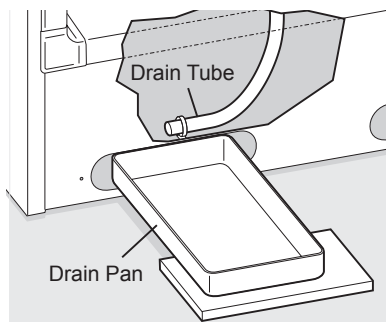
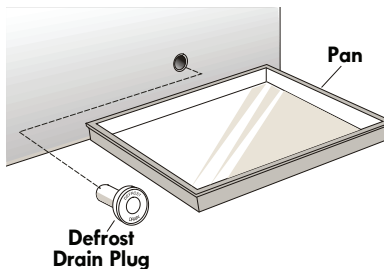
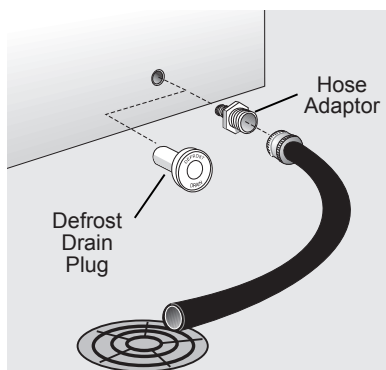

Figure 1
Figure 2
Figure 3
- Place a shallow pan under the drain tube. Defrost water will drain out. Check the pan occasionally so water does not overflow (see figure 1).
- Place a shallow pan beneath the drain outlet. Pull out the outside drain plug (see figure 2). A $\frac{1}{2}$ inch garden hose adapter can be used to drain the freezer directly into a floor drain (see figure 3). If your model is not equipped with an adapter, one can be purchased at most hardware stores.
- Place a shallow pan or the Divider/ Drain Pan (if equipped) beneath the drain outlet. Pull out the outside drain plug (see figure 1). A 1/2 inch garden hose adaptor can be used to drain the freezer directly into a floor drain (see figure 2). If your model is not equipped with an adapter, one can be purchased at most hardware stores.
- Remove the drain plug inside the freezer by turning counterclockwise (see figure 3). Defrost water will drain out. Check pan occasionally so water does not overflow.